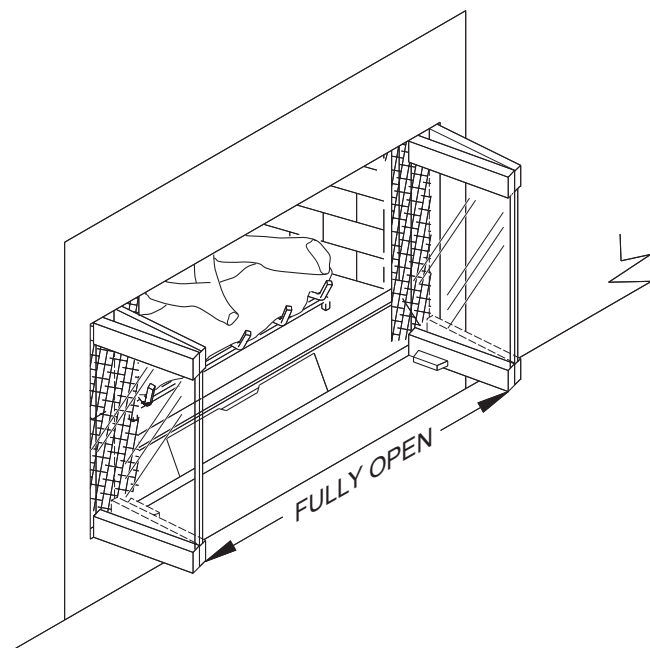

Figure 10: Bi-Fold Doors Fully Open
- Glass doors should be operated in the fully open position only (see **Figure 10, Page 9**).